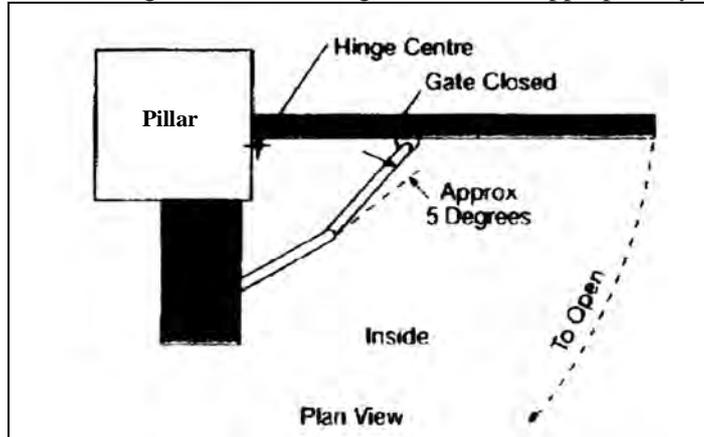

Figure 4: Arm position when gate closed
4. The gate bracket should be positioned so that the arms are almost in a straight line when the gates are closed (Figure 4) To check the location of the gate brackets, first disengage the main arm from the drive shaft (using the spanner provided), unscrew the bolt until the arm swings freely. Clamp the gate bracket in position. Open and close the gate to ensure the gate bracket is appropriately located.